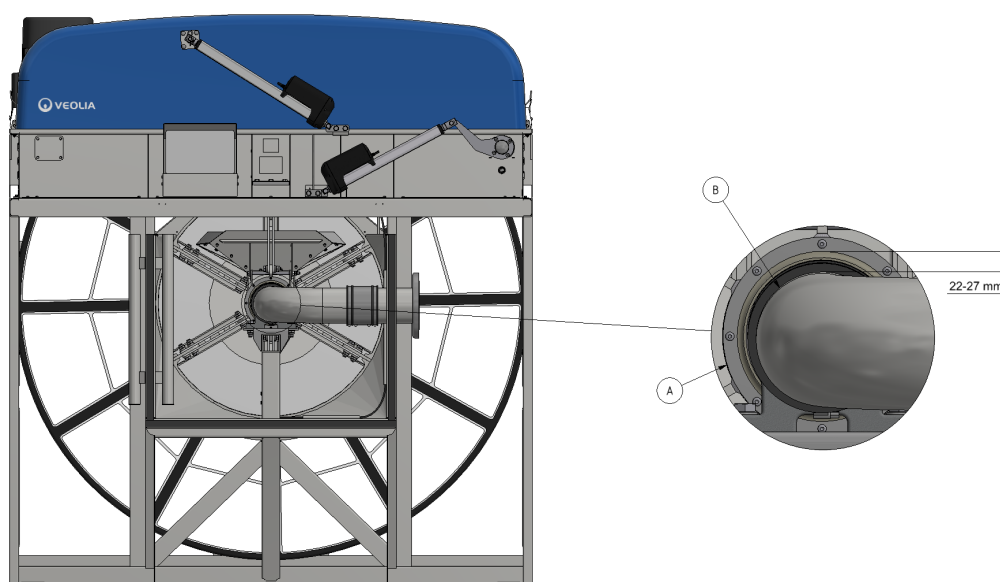

Figure 7.8 Drum bearing housing on inlet side.
1. Turn the main power switch to the OFF (0) position and lock with a padlock.
3. Check the drum bearings with respect to wear. If the distance between the bearing housing (A) and the shaft (B) is less than 22 mm (see Figure 7.8), the drum bearing must be replaced.